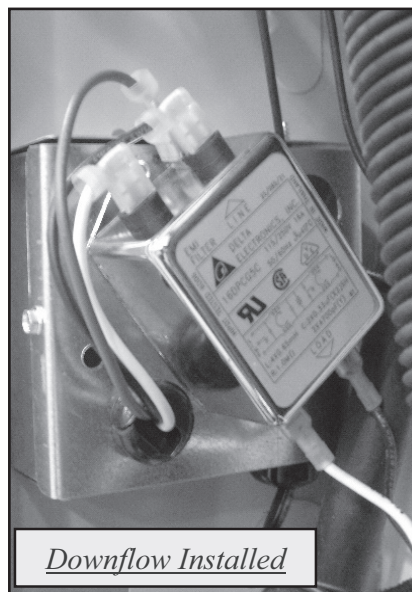

FIGURE 8
10. Attach terminated leads from previous step to Load side of Filter. See Figure 8 and 9 depending on orientation.